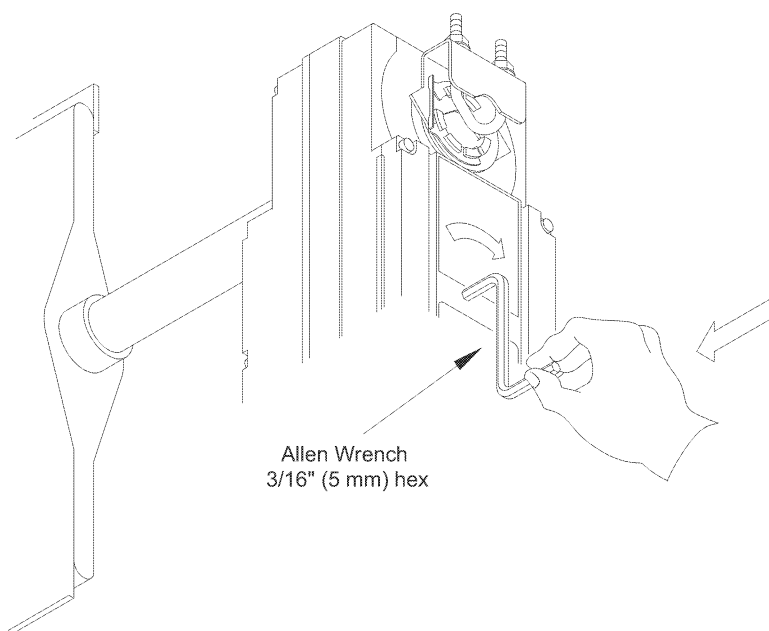

Figure-14 Manual Override Positioning.
The MS41-634X actuator can be manually positioned to ease installation or for emergency positioning. See Figure-14.
3. Manual override is automatically disengaged by applying power to the drive open or drive closed, see Figure-14. The actuator automatically disengages the override function and goes to the controller's desired position.